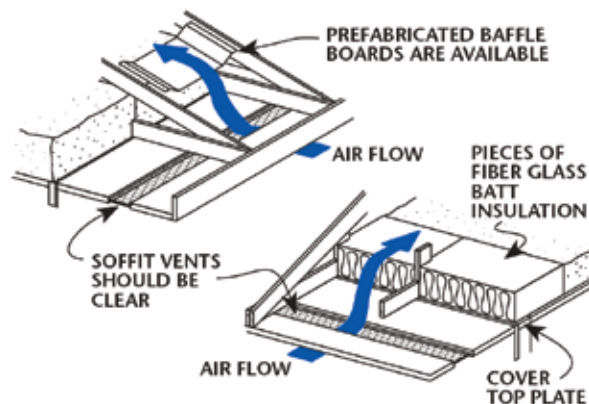

Figure 1
- Be sure that eave vents are not blocked. Ways to shield these openings are shown in Figure 1.
- When roof construction does not allow full depth to the ends of the joists, bounce the insulation off the underside of the roof to increase density in that area. Care should be taken not to block the eave vents. (See Figure 1.)